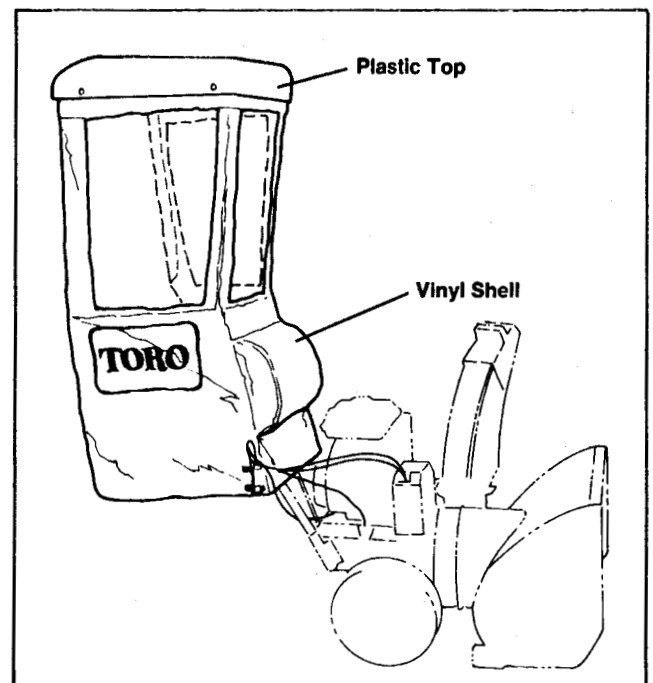

Figure 140
11. Carefully unfold the shell and position over the frame. See Figure 140